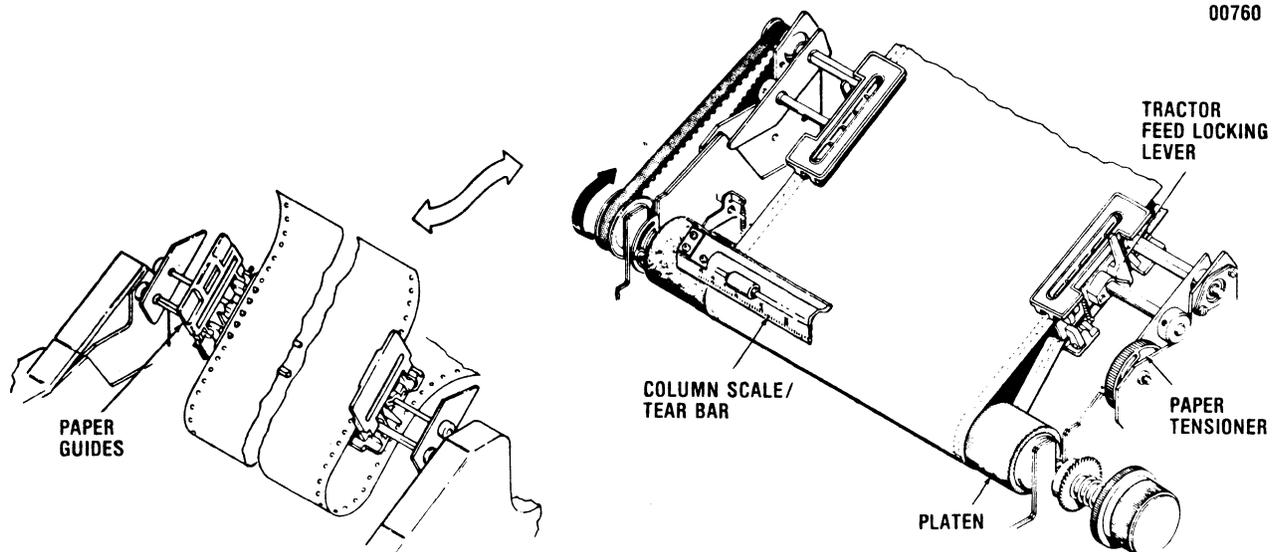

Figure 2-4 Loading Paper, Rear Tractor Drive
1. Ensure power is off and remove top clear cover. Refer to Figure 2-4.